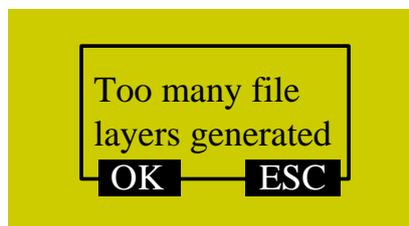

Fig. 7-6 Warning dialog when parameter not properly set
2. If the input value of “Engr Dpth” is too big, the system will send the warning information “Too many file layers generated, continue?”, as shown in Fig. 7-6. You can press [ESC] to back to modify the value; or press [OK] to load the file forcibly, the system staying in the interface shown in Fig. 7-6. At this time, if you press a key, its function will not be executed until this dialog box disappears, so it is not allowed to press any key under this state. You can wait patiently until the system has loaded the file, or you can power off and re-power on the system.